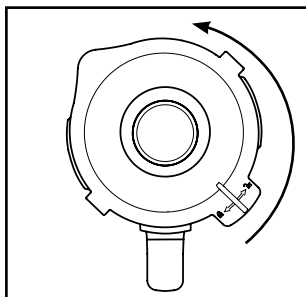

Fig. 1
- 2) Remove the lid **2** by rotating it anticlockwise towards position  (see Fig. 1) until you can pull it upwards.